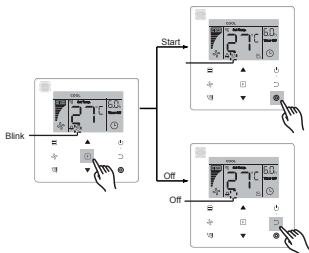

Figure 6.13
- Turn on/off the **"Silent"** function: press **[F]** (Function) button to switch to the **"Silent"** function ("**🔇**" blinks), and press **[Enter]** (Confirm) button to turn on the function or **[Cancel]** button to turn off the function (see Figure 6.13).